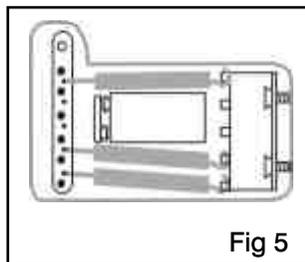

Fig 5
- d On instruments with a fulcrum trem system, if the trem springs are mounted as shown in Fig 5, the battery will fit neatly under the backplate as shown - a small piece of foam will prevent any movement.